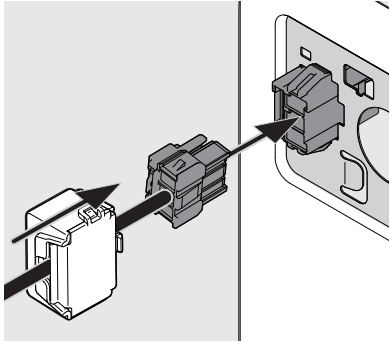

Figure 7
8. Connect the ice maker connector into the mating connector mounted on the back freezer panel. See Figure 7.